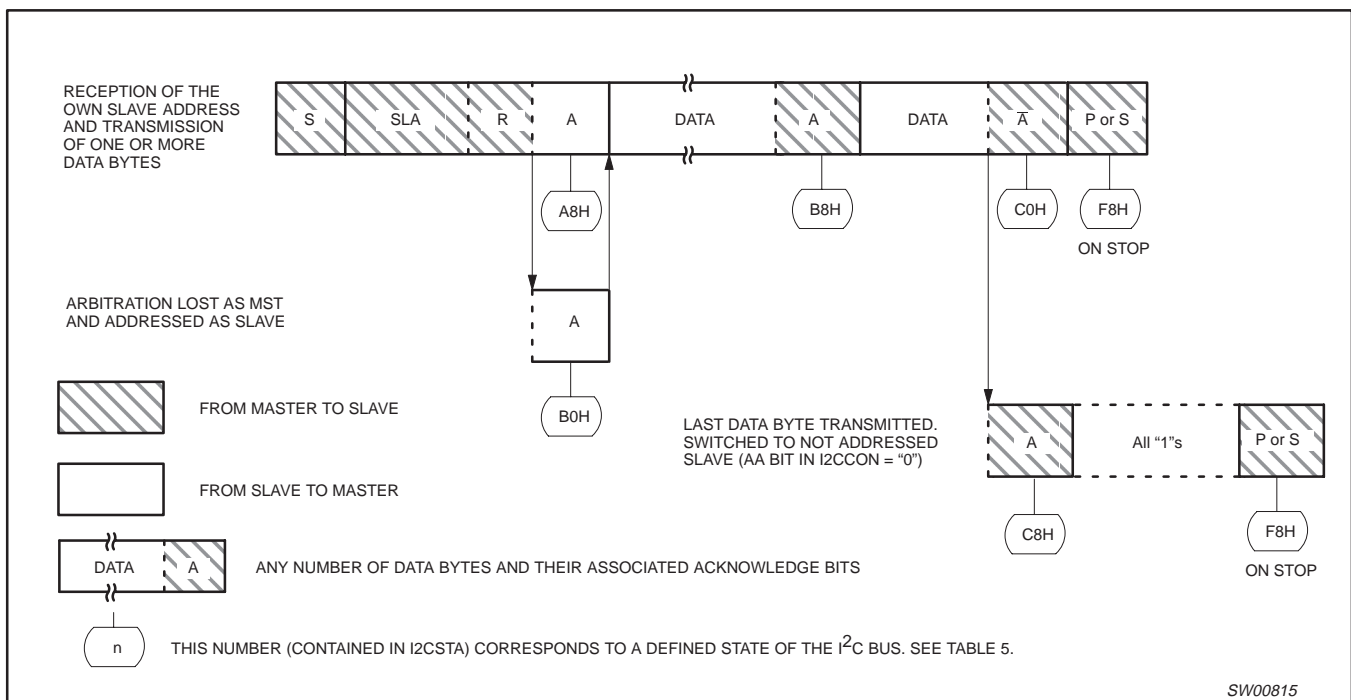

Figure 5. Format and states of the slave transmitter mode
When SIO is in the addressed slave transmitter mode, state C8H will be entered after the last serial is transmitted (see Figure 5). When SI is cleared, enters the not addressed slave receiver mode, and the SDA line remains at a HIGH level. In state C8H, the AA flag can be set again for future address recognition.
Slave Transmitter Mode: In the slave transmitter mode, a number of data bytes are transmitted to a master receiver (see Figure 5). Data transfer is initialized as in the slave receiver mode. When I2CADR and I2CCON have been initialized, SIO waits until it is addressed by its own slave address followed by the data direction bit which must be "1" (R) for SIO to operate in the slave transmitter mode. After its own slave address and the R bit have been received, the serial interrupt flag (SI) is set and a valid status code can be read from I2CSTA. This status code is used to vector to an interrupt service routine, and the appropriate action to be taken for each of these status codes is detailed in Table 5. The slave transmitter mode may also be entered if arbitration is lost while SIO is in the master mode (see state B0H).